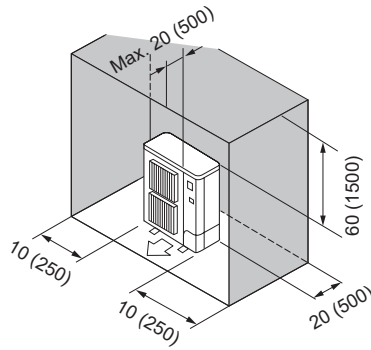

Fig. 2-11
- ⑥ Obstacles at rear, sides, and above (Fig. 2-11)